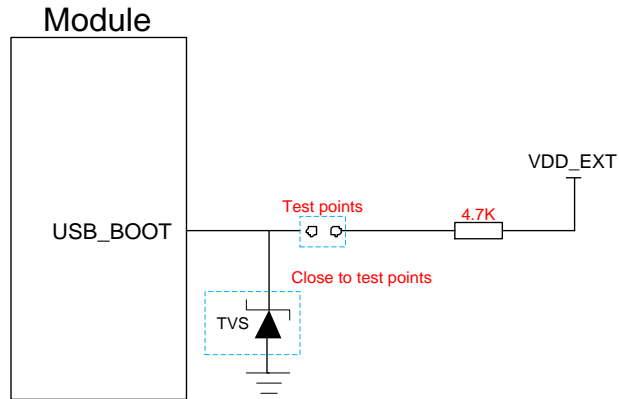

Figure 31: Reference Circuit of USB_BOOT Interface
2. When using MCU to control module to enter the emergency download mode, please follow the above timing sequence. It is not recommended to pull up USB_BOOT to 1.8 V before powering up VBAT. Connect the test points as shown in **Figure 31** can manually force the module to enter download mode.